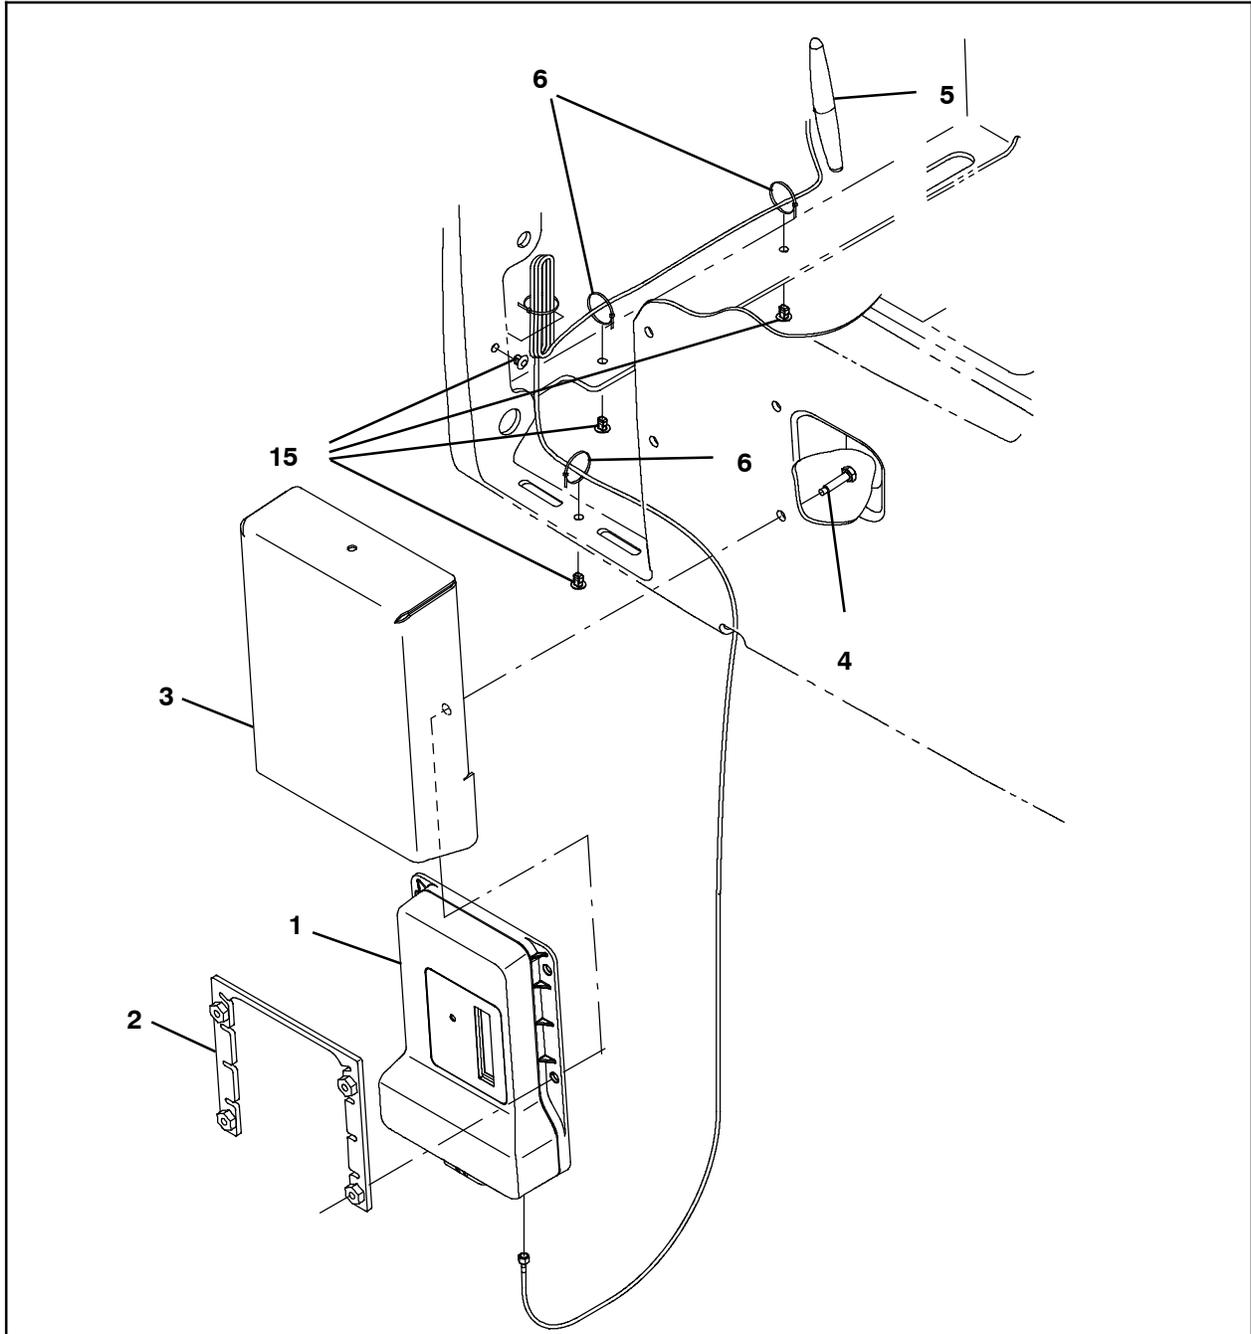

Fig. 6
3. Use four M6 Sems hex screws (4) and the control box guard (2) to install the telemetry control box (1) and guard cover (3) onto the battery box cover. (Fig. 6)
4. Connect the antenna (5) cable to the telemetry control box (1). (Fig. 6)
5. Install the antenna (5) to the inside of the battery box cover as shown (Fig. 6).
6. Use four tie clips (15) and four cable ties to secure the antenna (5) cable to the battery box cover. Neatly bundle any excess antenna cable and use tie clips and cable ties to secure the cable to the battery box cover. (Fig. 6)